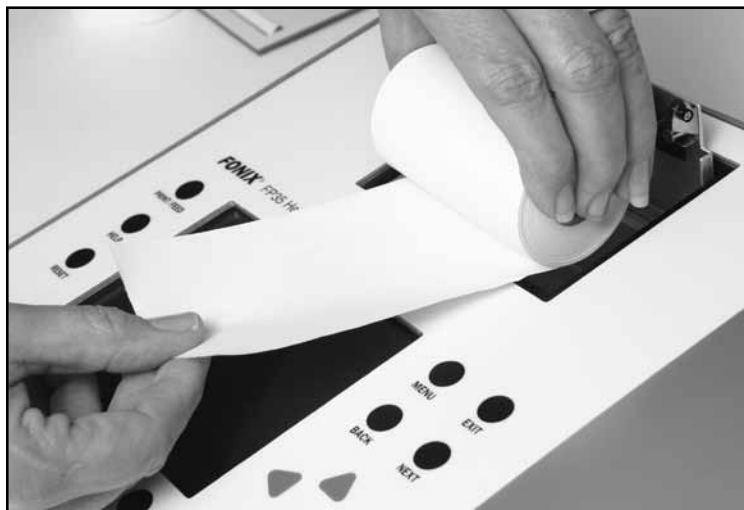

Figure 2.6.4B—Hold the loose paper in one hand and the full roll in the other hand.
4. From the new roll, unroll approximately 6 inches of paper. Hold end of paper to pull in one hand and the roll in your other hand. See figure 2.6.4B.